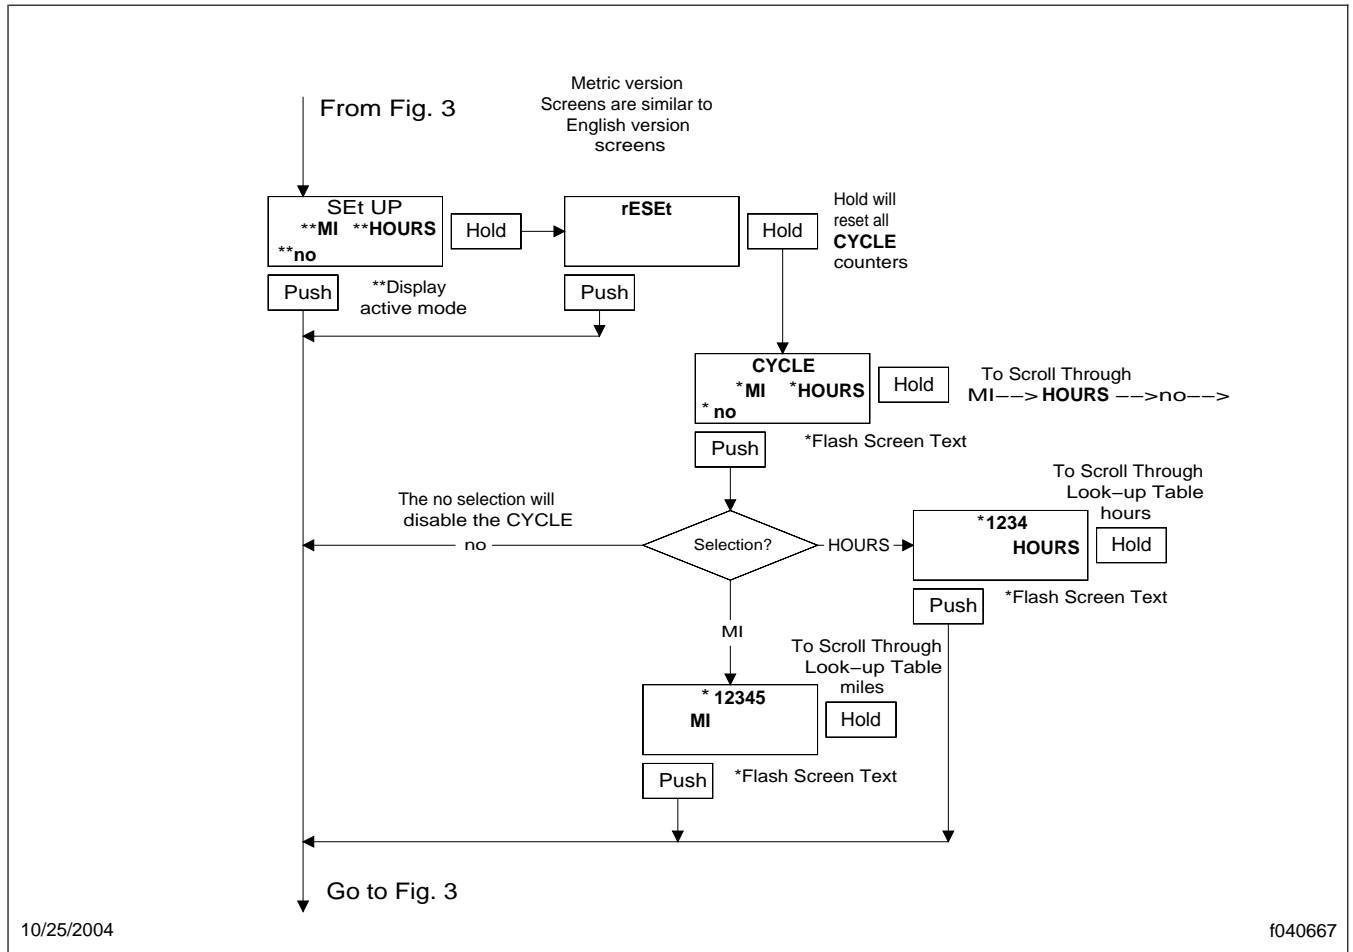

Fig. 7, Mode/Reset Switch Reset and Toggle Screens
- See **Fig. 7** for Mode/Reset Switch Reset and Toggle Screens.